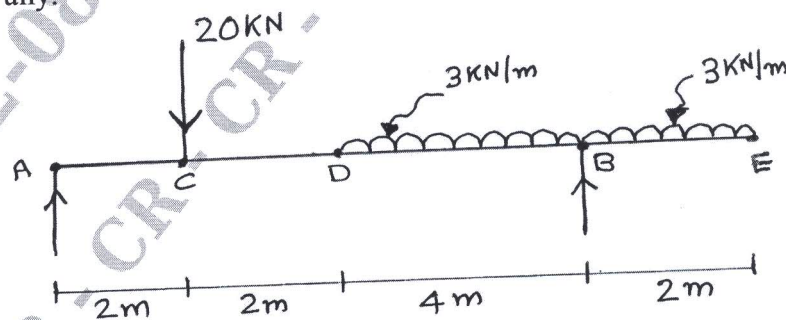

Fig.Q.5(a)
- 5 a. Draw SFD and BMD for the beam shown in Fig.Q.5(a). Also locate the point of contraflexure if any.